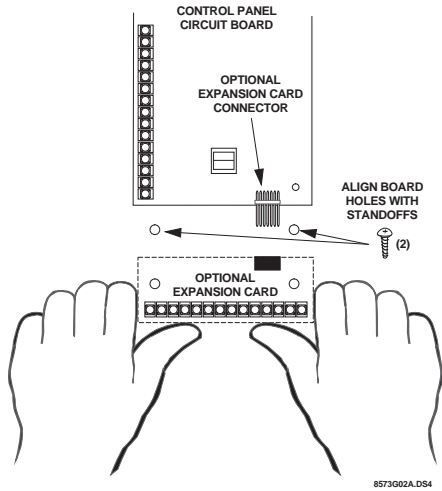

Figure 2. Installing the Card in Concord Panel
2. Align the card holes with the panel standoffs and connector pins as shown in figure 2 or 3.